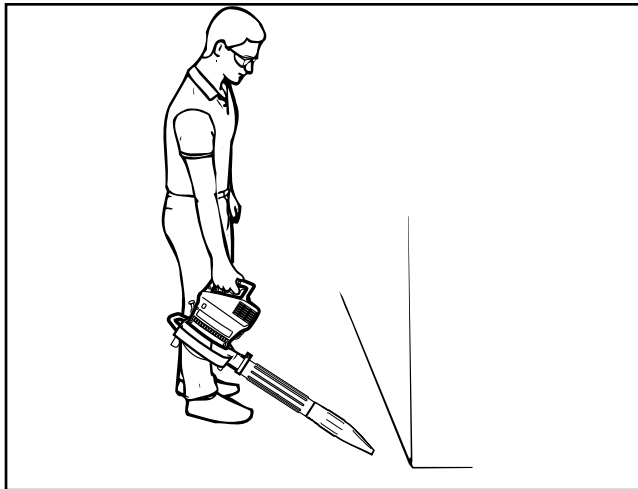

Fig. 20
2. Use the unit around buildings and for other normal cleaning (Fig. 20).